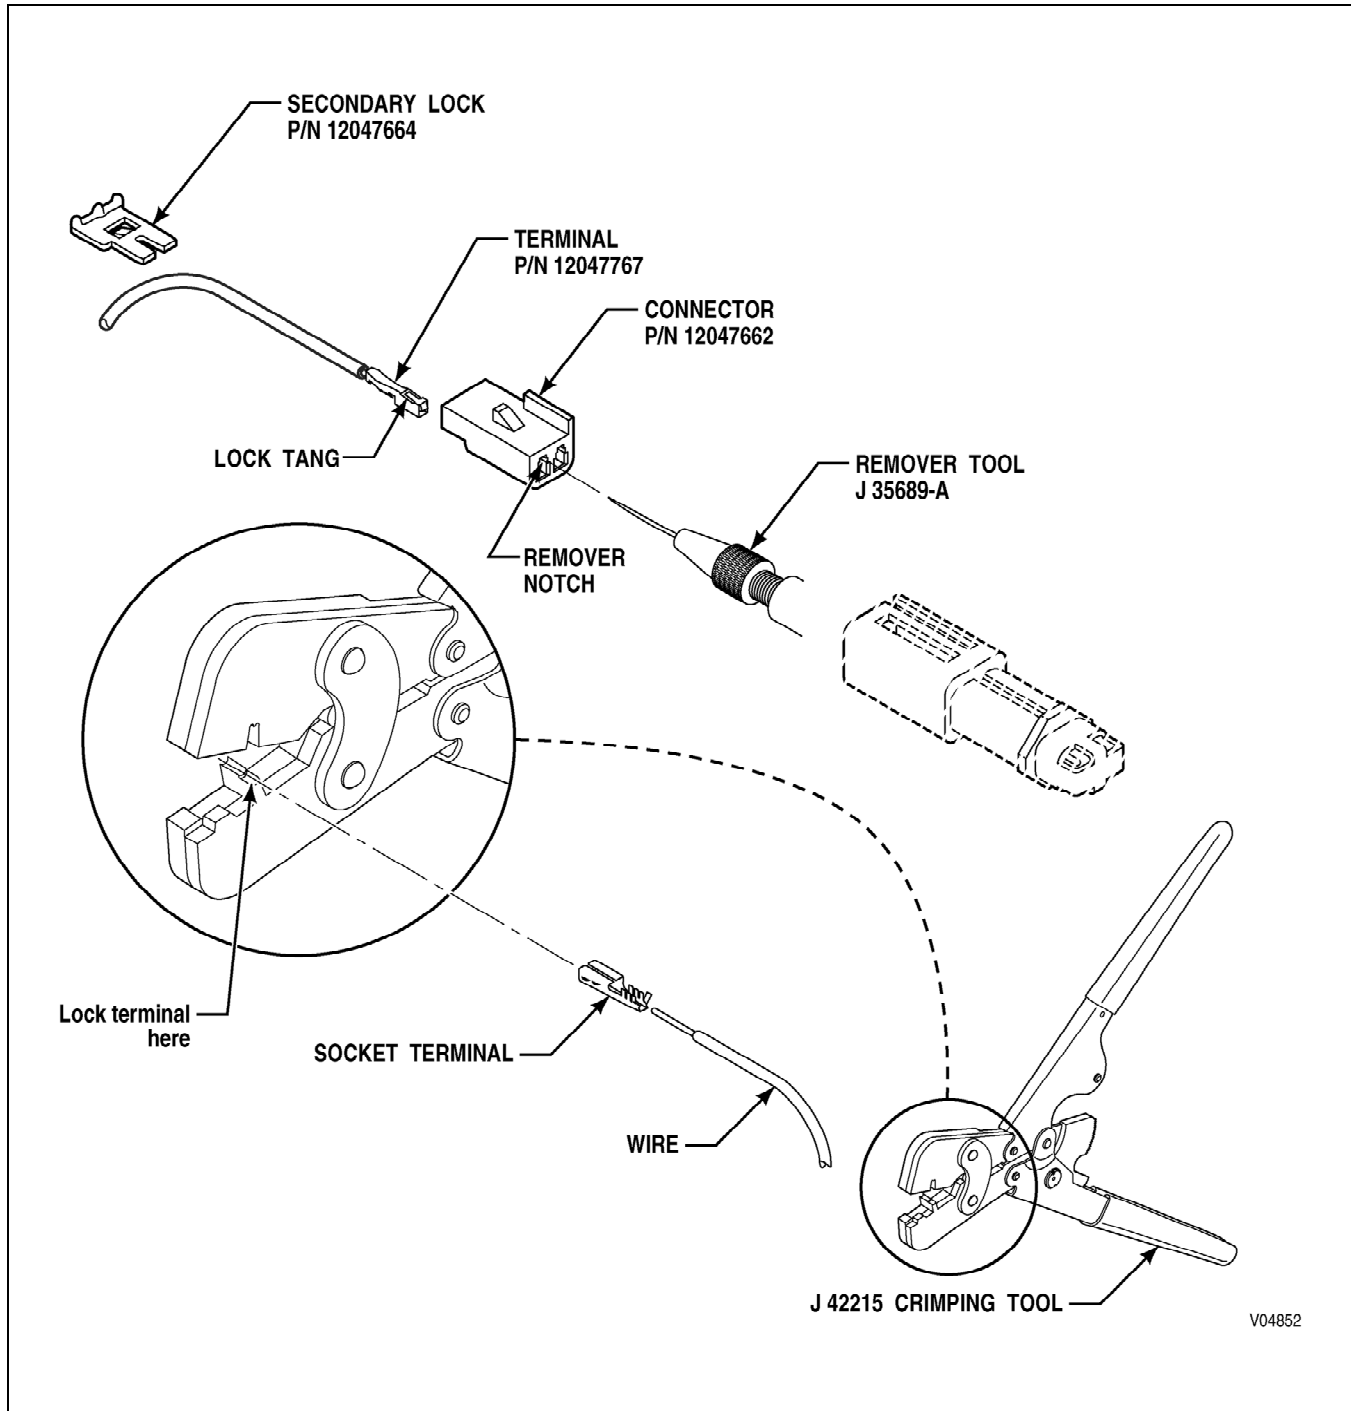

Figure G-14. Delphi-Packard Metri-Pack 150 Series Connector—Push-To-Seat (All Models, Sump Temperature Thermistor)
2. Insert needle end of J-35689-A Remover Tool into the small notch in the front of the connector cavity of the terminal to be removed (refer to Figure G-14).